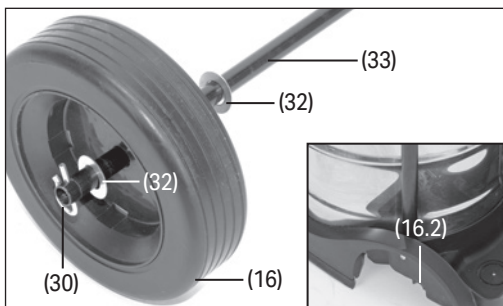

Fig. 3
7.2 Fitting the Rear Wheels (Fig. 3)
1. Add one of the washers (32) and pass one of the wheel locking pins (30) through the hole in the end of the wheel axle (33) and assemble as shown in Fig.3.
3. Repeat assembly for the other wheel. Snap fit the two wheel hub caps (31) on.